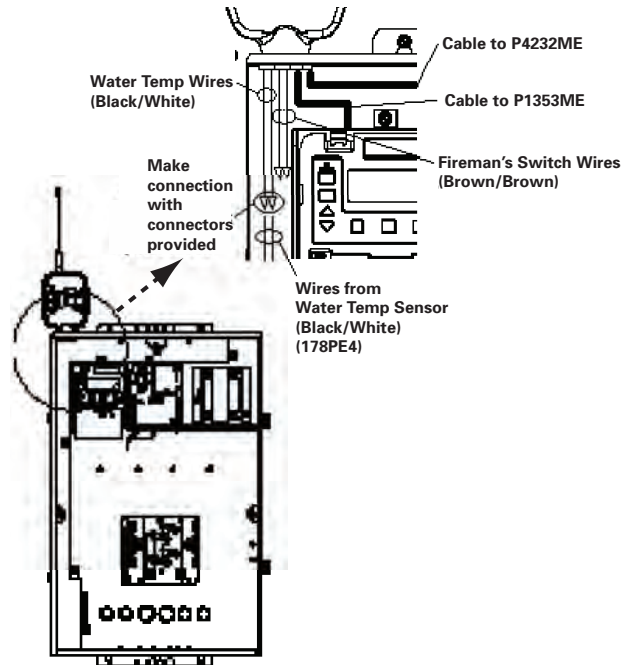

Figure 3-11
2. Run the wire to the Control Center, through the low voltage raceway. Connect both wires to the Panel Mount Receiver. (See Figure 3-11.)